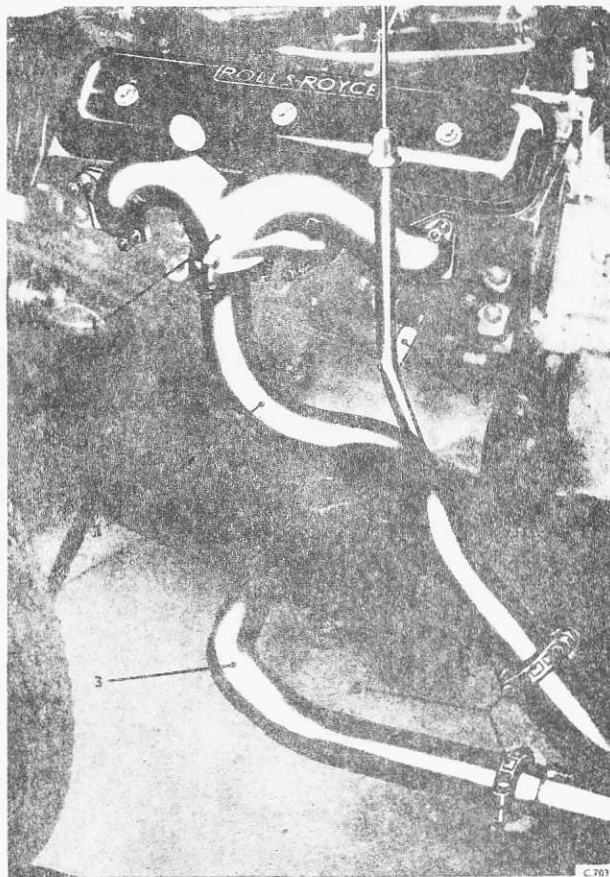

Fig. Q2 (S) Exhaust manifold and down pipes — S3 cars
Remove the sixteen extension nuts from the exhaust manifolds, then lift the manifolds from the studs (see Fig. Q2 (S) of this Supplement).
Remove the two nuts, bolts and bridge clamps securing the down pipe to the breeches piece (see Fig. Q2 (S) of this Supplement).
Remove the nuts, bolts and bridge clamps securing the down pipes to the breeches piece (see Fig. Q2 (S) of this Supplement).